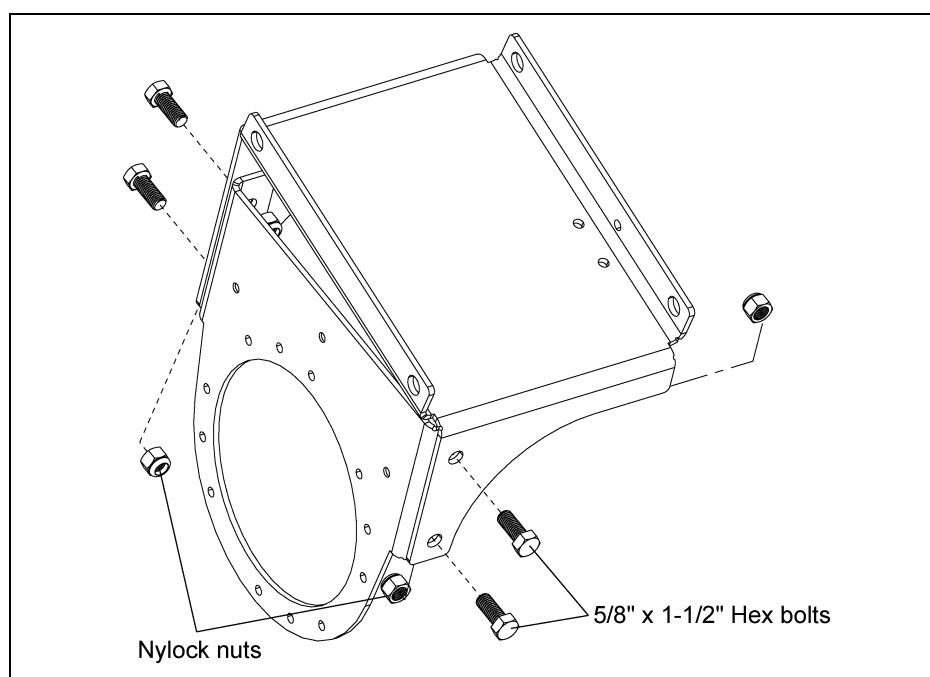

Figure 4G
2. Bolt the motor mount plate to the head plate using four (4) 5/8" x 1-1/2" hex bolts and nylock nuts. (See Figure 4G.)